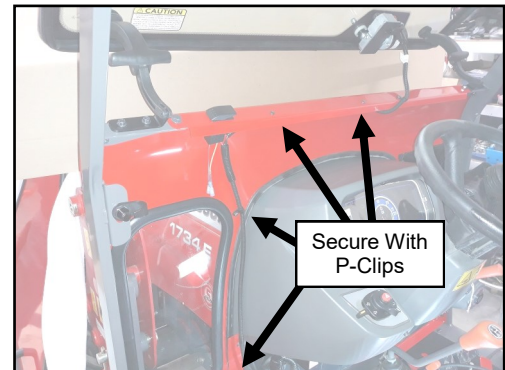

Fig. 16.2 (Attach Main Harness To Cowl)
- 16.2** Run the harness to the under side of the cowl and down past the cowl window. Secure it with (4) more P-clips and hardware. See Figure 16.2. Connect the harness to the heater switch.